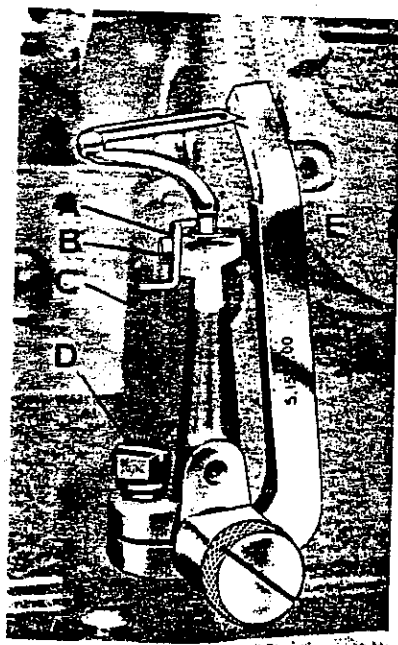

fig. 4
- S.1686.00 for all operations except operation 4 (fig. 4).
4. Setting primary looper (fig. 4)
- mount looper height gauge S.1555.00 on the primary looper shaft with special screw supplied with gauge as shown in fig. 4.
- slightly tighten screw E (fig. 4).
- Firmly tighten up screw E (fig. 4).